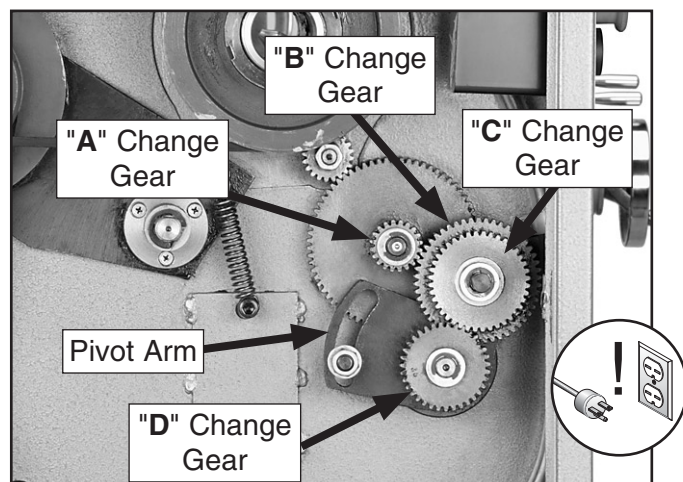

Figure 60. Lathe change gear components.
2. Open the change gear cabinet door, and refer to **Figure 60** to identify the change gear components and their relationship to one another.